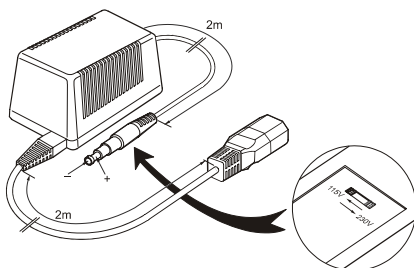

Fig. 3. PM8907
- PM8907/808 Power Adapter (Fig. 3)